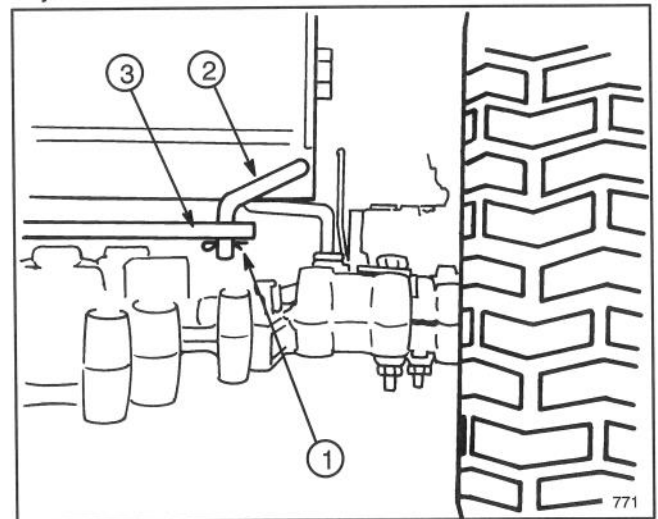

Figure 33
1. Remove cotter pin from rod on right side of transaxle as viewed from the rear of the unit (Fig. 33).
2. Lift rod out of bracket hole (Fig. 33).